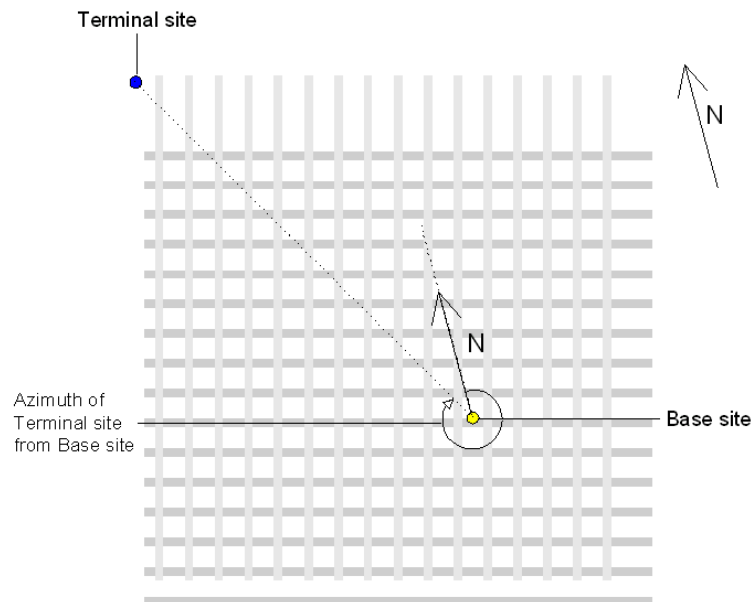

Figure 2-4: Measuring Azimuth between the BS and TS Using a Map
2. Draw the BS and TS sites on a map and find the azimuth between them as shown in Figure 2-4.